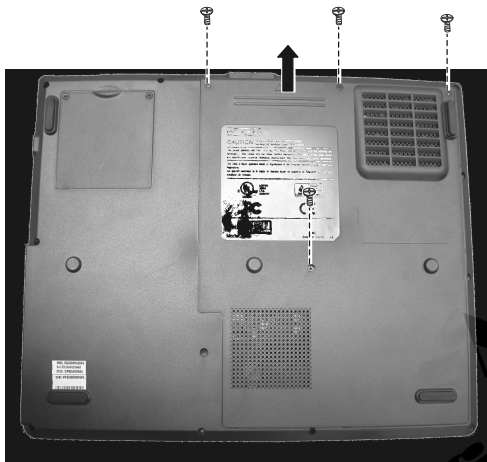

Figure 2-1 Remove the four screws
2. Remove the four screws, then remove the CPU cover. (Figure 2-1)